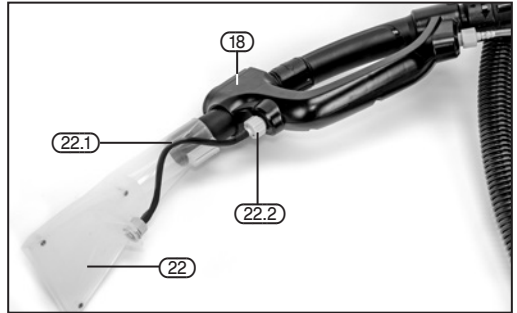

FIG. 22
9.5 ATTACHING THE SMALL FLUID NOZZLE – FIG. 22
- Connect up the small fluid shampoo delivery hose (22.1) onto the shampoo/vacuum control handle grip (18) by screwing on the attached fitting (22.2), as shown in fig. 22.